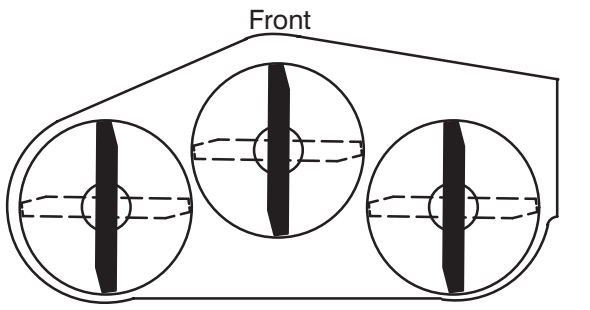
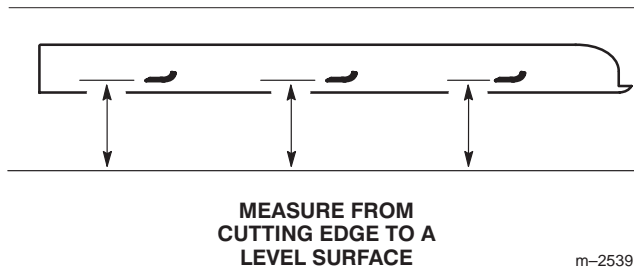

Figure 34
Figure 35
3. Rotate the blades until the ends face forward and backward (Fig. 34). Measure from a level surface to the cutting edge of the blades (Fig. 35). Note this dimension.